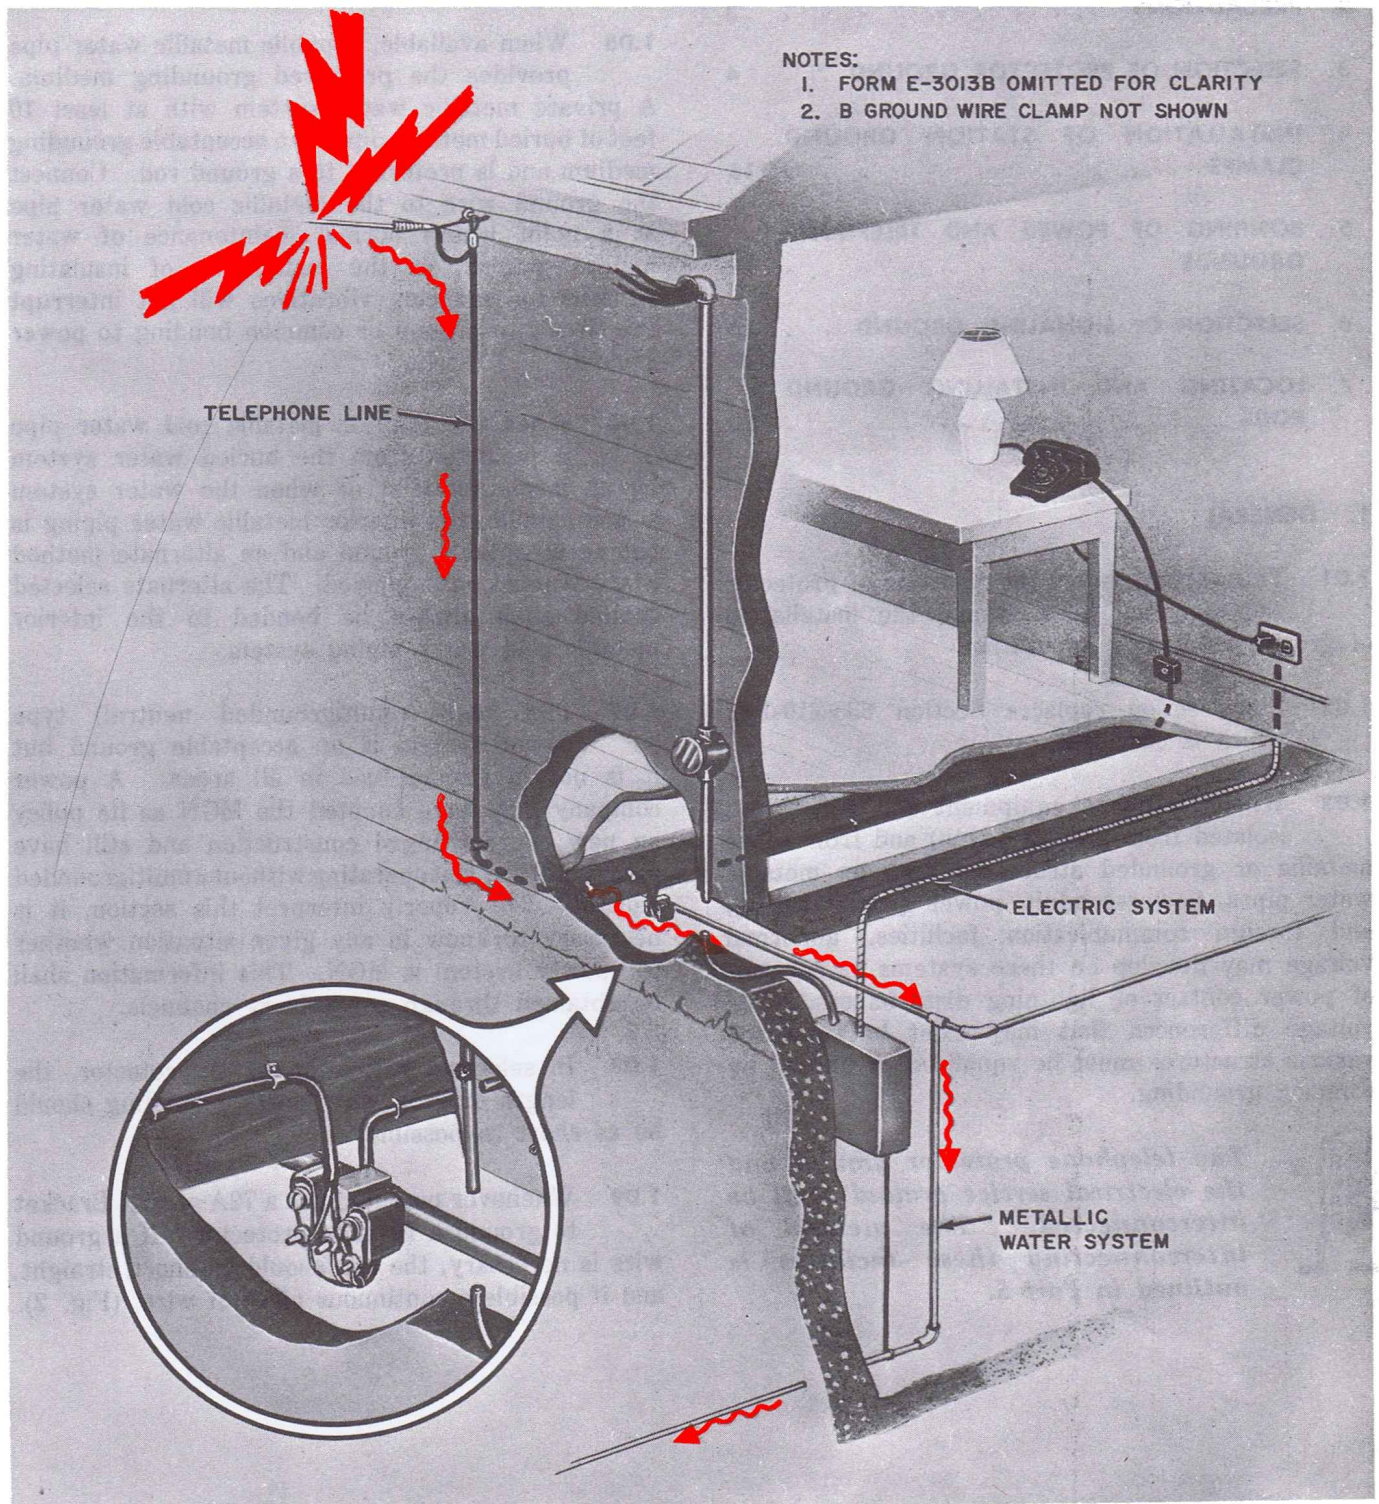

Fig. 1—Effective Ground
1.04 On visits to previously installed stations, inspect the grounding system. Systems not properly grounded must be changed to meet the current grounding and bonding requirements. The preferred effective ground is illustrated in Fig. 1.